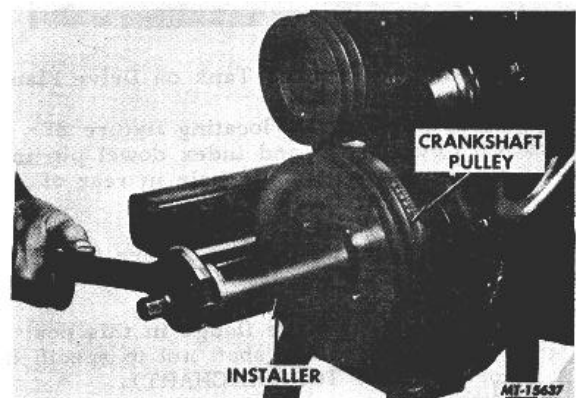

Fig. 174 Installing Crankshaft Pulley
34. Position pulley key in keyway of crankshaft. Lubricate inside diameter of crankshaft pulley with press-fit lubricant. Install crankshaft pulley using installer tool SE-1900 (Fig. 174). Install crankshaft pulley nut and flat washer. Tighten pulley nut to specified torque. (See TORQUE CHART).